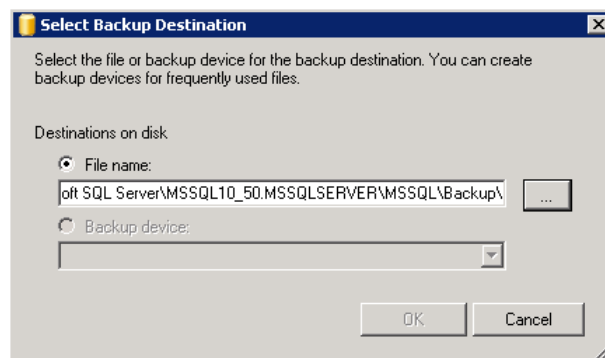

Figure 2-41 Select Backup Destination
7. Click the *Add* button to open the *Select Backup Destination* dialog box (Figure 2-41).